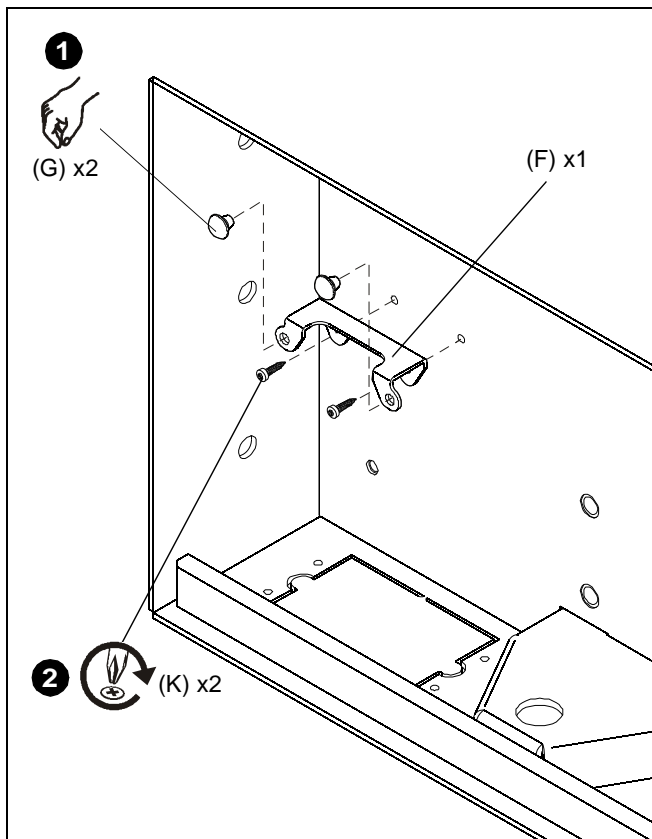

Figure 1
1. Install two bumpers (G) to bumper mounting bracket (F). (See Figure 1)
2. Secure bumper mounting bracket (F) to FAC501 onto the side the arm will be located when retracted using two Phillips pan head screws (K). (See Figure 1)